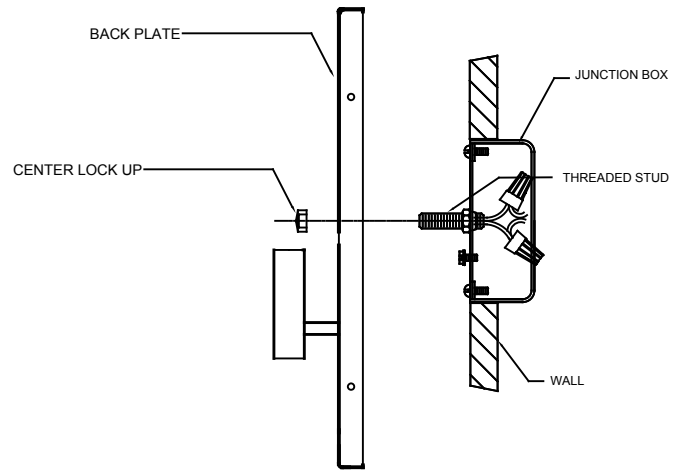

FIGURE-02
4. Attach the backplate to the mounting plate and secure it with center lock up. (See Figure-02).